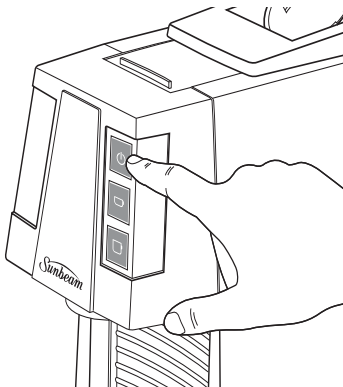

Figure 2
3. Press power button on the machine. See figure 2.
2. Rotate the capsule holder anti-clockwise (towards the unlock position). See figure 2.